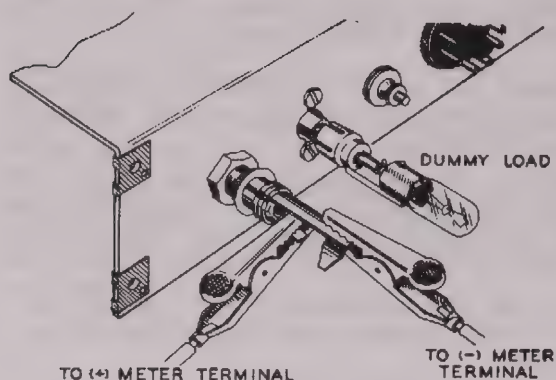
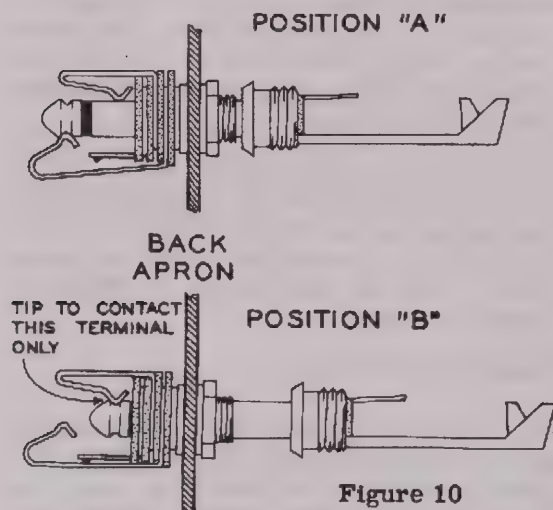

Figure 9
Figure 10
- () Connect a 0-50 V meter to the meter plug as shown in Figure 9. Place the meter plug in position B, as shown in Figure 10. For best results, a 20,000 ohms-per-volt-meter is recommended.